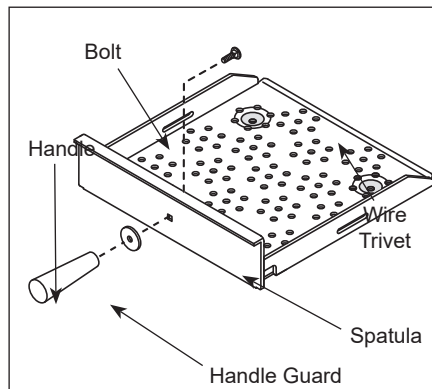

Figure 3. Assembling Handle (MS-150 Only)
6. MS-150 Models: Assemble the Handle, Handle Guard and Mounting Bolt to the Spatula (Figure 3).